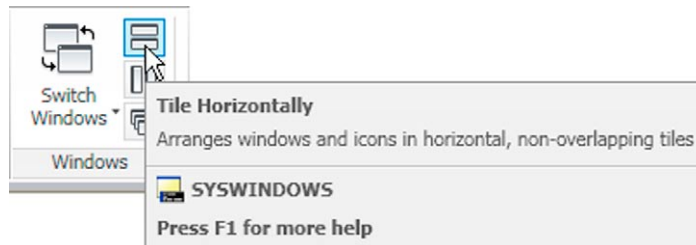
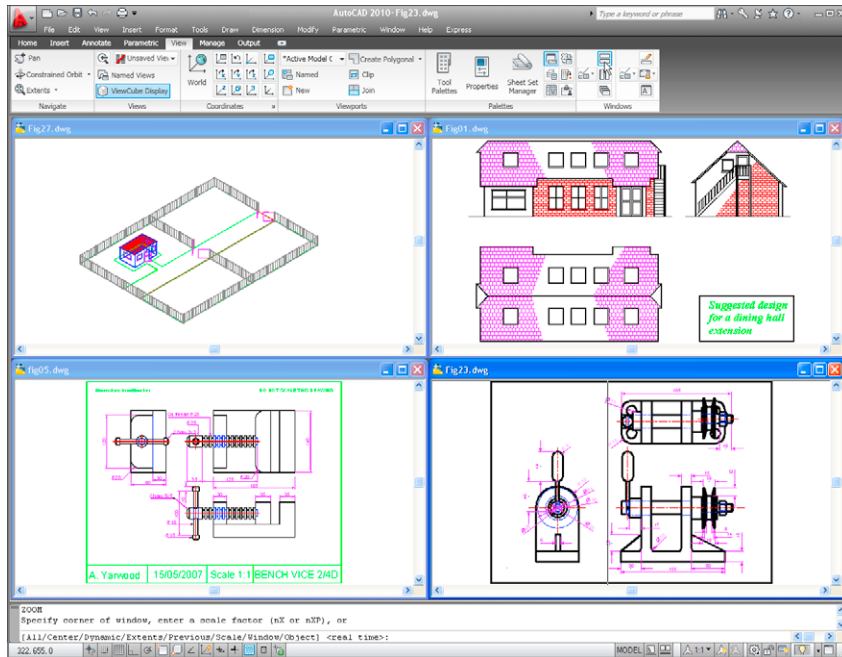

Fig. 10.23 Selecting **Tile Horizontally** from the **View/Windows** panel
Fig. 10.24 Four drawings in the Multiple Design Environment
2. In the **View/Windows** panel click **Tile Horizontally** (Fig. 10.23). The four drawings rearrange as shown in Fig. 10.24.